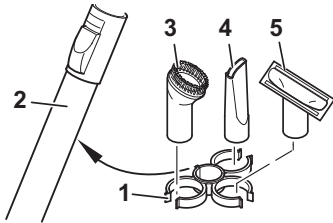

Fig. 5
5. Push the accessories mount (Fig. 5/1) onto the telescopic tube (Fig. 5/2) below the telescopic tube lock. Then push the furniture brush (Fig. 5/3), crevice nozzle (Fig. 5/4) and upholstery nozzle (Fig. 5/5) onto the holders.
■ The crevice nozzle, the furniture brush and the upholstery nozzle are included as **accessories** in the scope of delivery. They can be secured to the accessories mount (Fig. 5/1) when not in use.